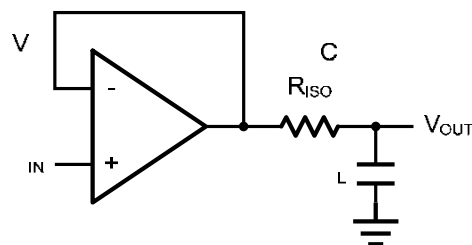
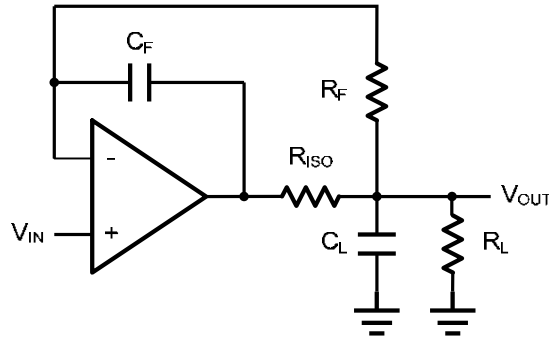

Figure 2 Indirectly Driving a Capacitive Load Using Isolation Resistor
Figure 3. Indirectly Driving a Capacitive Load with DC Accuracy
The AD854xARZ-REEL7 family is optimized for bandwidth and speed, not for driving capacitive loads. Output capacitance will create a pole in the amplifier's feedback path, leading to excessive peaking and potential oscillation. If dealing with load capacitance is a requirement of the application, the two strategies to consider are (1) using a small resistor in series with the amplifier's output and the load capacitance and (2) reducing the bandwidth of the amplifier's feedback loop by increasing the overall noise gain. Figure 2 shows a unity gain follower using the series resistor strategy. The resistor isolates the output from the capacitance and, more importantly, creates a zero in the feedback path that compensates for the pole created by the output capacitance.
The circuit in Figure 3 is an improvement to the one in Figure 2. R_F provides the DC accuracy by feed-forward the V_{IN} to R_L . C_F and R_{ISO} serve to counteract the loss of phase margin by feeding the high frequency component of the output signal back to the amplifier's inverting input, thereby preserving the phase margin in the overall feedback loop. Capacitive drive can be increased by increasing the value of C_F . This in turn will slow down the pulse response.